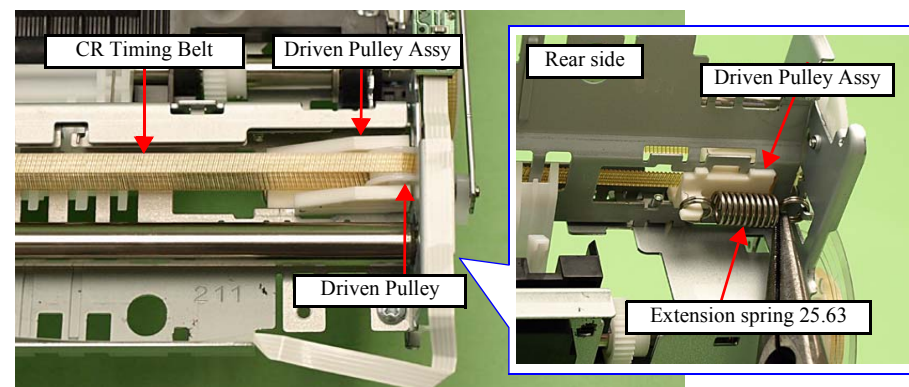
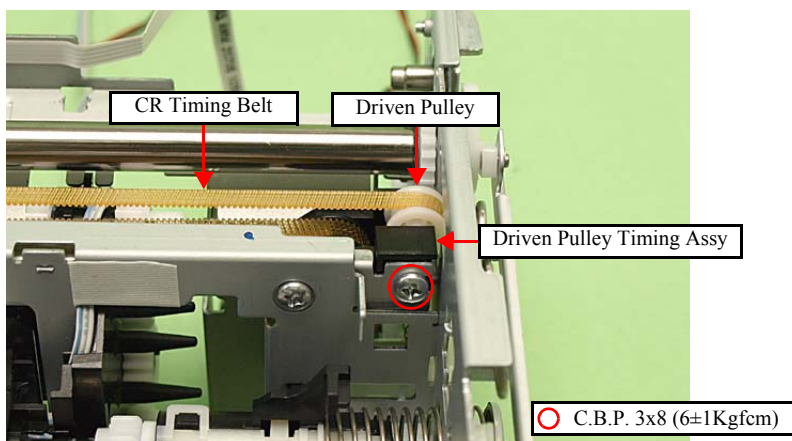

Figure 4-129. Removing the Driven Pulley Assy
Figure 4-131. Removing the Driven Pulley Timing Assy
2. Remove the Extension spring 25.63 under the Driven Pulley Assy with longnose pliers, and remove the Driven Pulley Assy from the Main Frame. (See Fig. 4-129.)
5. Remove the screw (x1) that secures the Driven Pulley Timing Assy, and remove the Driven Pulley Timing Assy. (See Fig. 4-131.)
- Take care when installing the Driven Pulley, because the pulley on the 0-column side (see Fig. 4-131) is smaller than the one on the 80-column side (see Fig. 4-129).